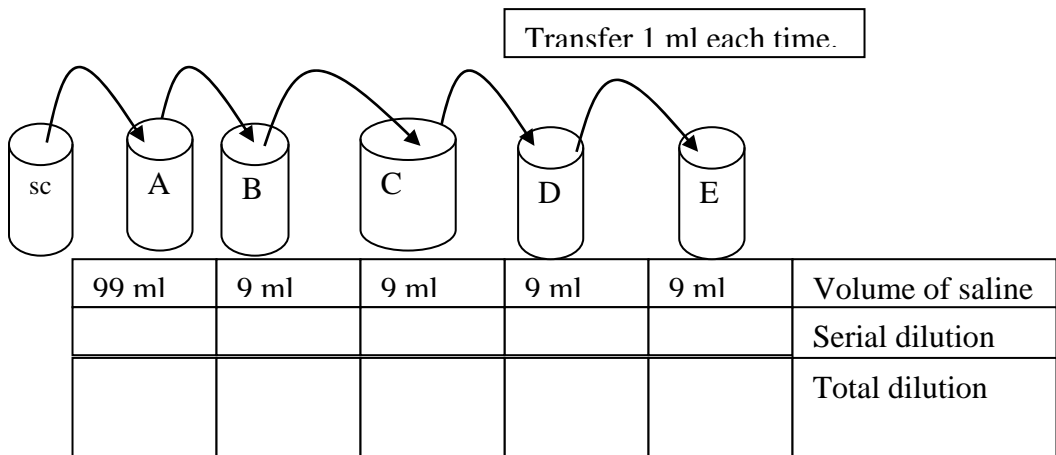

Figure 1. Dilution Series
1. Obtain 4 tubes of sterile media (each contains 9ml), 1 bottle of sterile media, 1 tube of culture, 1 p-1000 pipettor, and blue box pipette tips. See figure 1 for assistance.